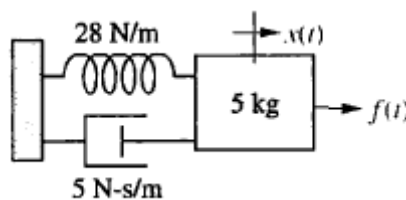

Figure 2
- 2B.** For the system shown in Figure 2, find natural frequency, damped frequency, damping ratio, percent overshoot, settling time and peak time. 5
2C. Also determine the order of the system shown in figure 2. 1